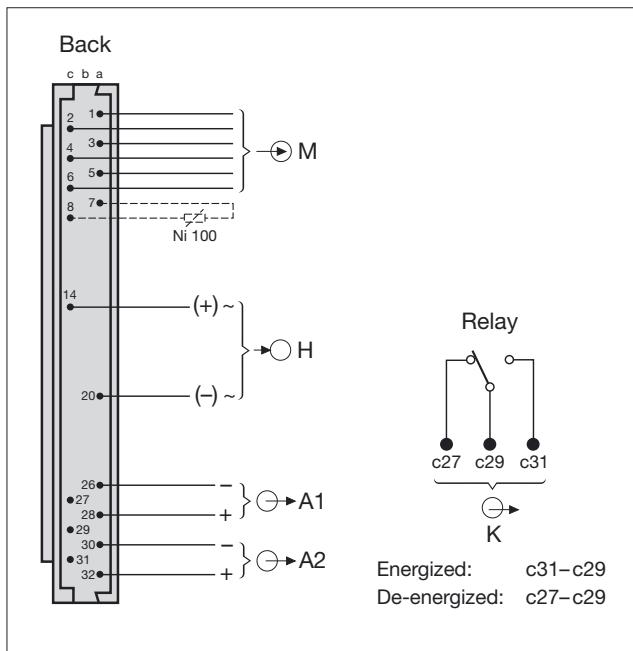

Fig. 6. Plug arrangement seen from the rear of SIRAX V 644.
The transmitter SIRAX V 644 is plugged onto a backplane BP 902. A 96 pin connector (Model C, DIN 41 612) establishes the electrical connections between the transmitter and the backplane. The pin connections can be seen from Fig. 6. Please refer to our backplane instructions for the backplane wiring.
- ... the data required to carry out the prescribed measurement must correspond to those marked on the nameplate of SIRAX V 644 (\rightarrow measuring input M, $\oplus\rightarrow$ measuring outputs A1 and A2, $\rightarrow\circ$ power supply H and $\oplus\rightarrow$ output contact K, see Fig. 6)!
Legend for Fig. 6
Connect the output leads for output A1 to pins a26 (-) and a28 (+) and for output A2 (field indicator) to pins a30 (-) and a32 (+) as shown in Fig. 6.
Connect the power supply to pins a20 (\approx) and c14 (\pm) as shown in Fig. 6.
Connect the output contact signalling leads acc. to Fig. 6 resp. Table 6.